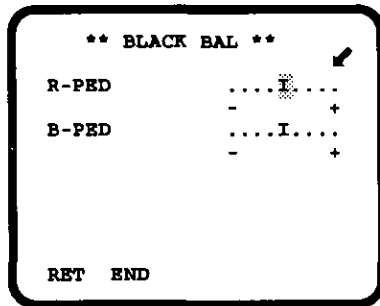

Fig.43.
- By pressing the Page Button (PAGE), the manual black balance menu (BLACK BAL) is displayed as shown in Fig.43.